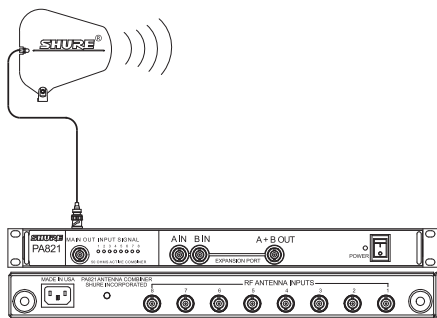

FIGURE 1
2. Attach an antenna to the **MAIN OUT** of PA821. For wideband applications, use PA805SWB directional antenna (Figure 1).
**NOTE:** When the PA821 is powered on, the input signal indicators (1-8) on the front panel will illuminate if an active transmitter is connected to the corresponding input (1-8) on the back panel (Figure 1).